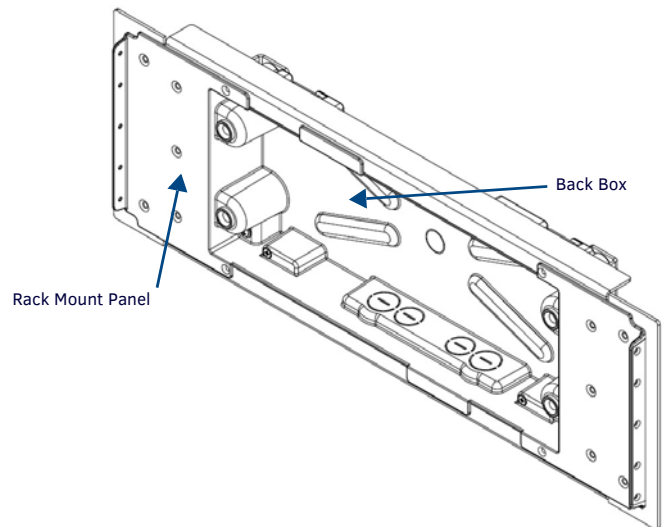

FIG. 4 FINAL ASSEMBLY OF THE MXA-RMK-19 WITH BACK BOX
4. With the Back Box anchored in the Rack Mount Panel (FIG. 4), you may now install the MXD-1900L-PAN into the Back Box.